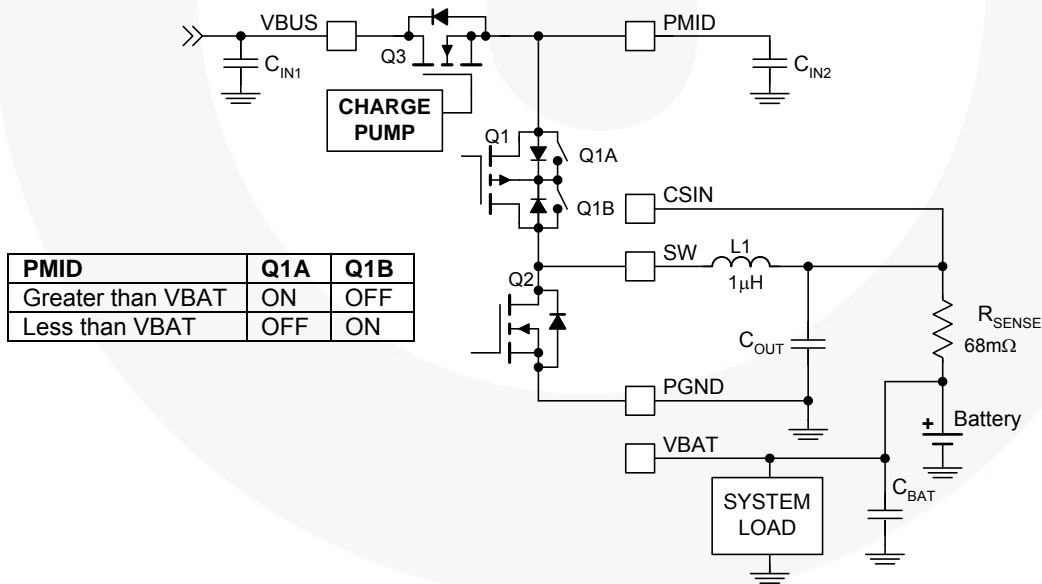

Figure 3. Power Stage
2. 6.3V rating is sufficient for C_{MID} since PMID is protected from over-voltage surges on VBUS by Q3 (Figure 3).